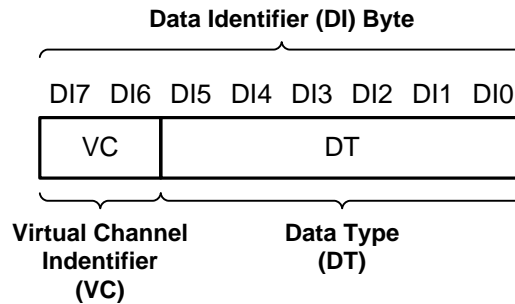

Figure 23. CSI-2 Data Identifier Structure
The DS90UB954-Q1 MIPI CSI-2 protocol interface transmits the data identifier byte containing the values for the virtual channel ID (VC) and data type (DT) for the application specific payload data, as shown in Figure 23. The virtual channel ID is contained in the 2 MSBs of the data identifier byte and identify the data as directed to one of four virtual channels. The value of the data type is contained in the six LSBs of the data identifier byte. When partnered with a DS90UB953-Q1 or DS90UB935-Q1 serializer, the Data Type is passed through from the received CSI-2 packets. When partnered with DS90UB933-Q1 or DS90UB913A-Q1 the received RAW mode data is converted to CSI-2 Tx packets with assigned data type and virtual channel ID and matches what is sent by the video source.